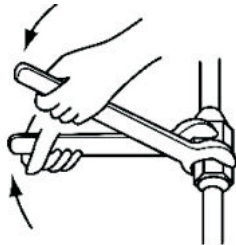

Fig.6.2 Screw up Nut Cap
- As shown in Fig.6.2, screw up nut cap. Refer to the torque required below: